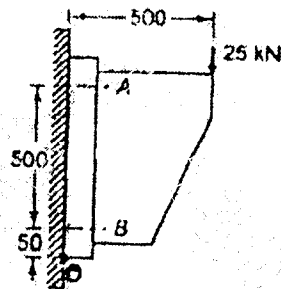

Fig.Q4(b)
- b. A wall bracket is attached to the wall by means of four identical bolts - two at 'A' and two at 'B', as shown in Fig.Q4(b). Assuming that the bracket is held against the wall and prevented from tipping about the point 'O' by the four bolts, determine the size of the bolts on the basis of the maximum shear stress theory. The allowable tensile stress in the material of the bolt is 350 MPa.